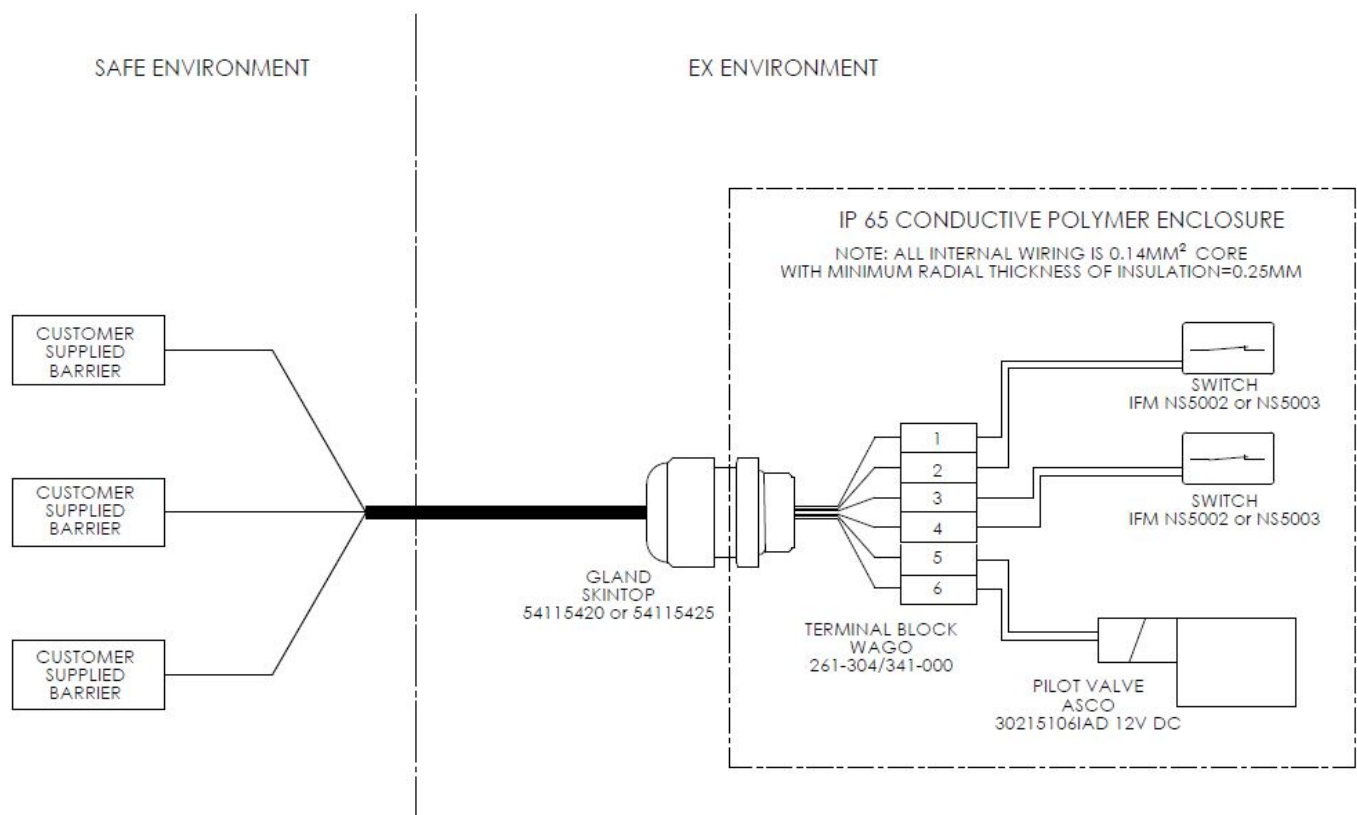

Fig 12: Electrical connection
- ⇒ Twist each core firmly before fitting to the terminals of the 6-way terminal block as in Fig 12.